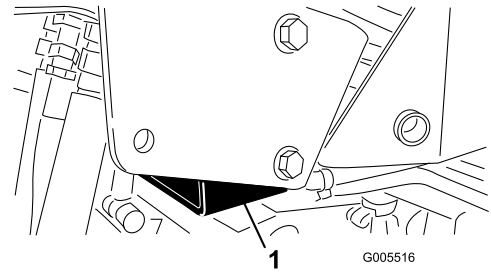

Figure 30
- Right side—under the jack pad and adjacent to the ROPS-support bracket (Figure 30)